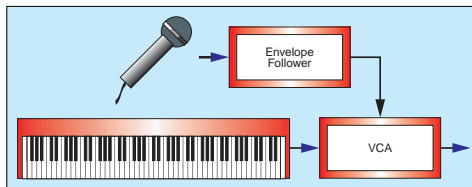

Figure 11: Articulating a keyboard sound using your voice.
- could attach a microphone and use your voice to articulate your keyboard playing — allowing sound through the VCA when you say (or sing) words, but creating silence between words (Figure 11). Unfortunately, the envelope follower is simply